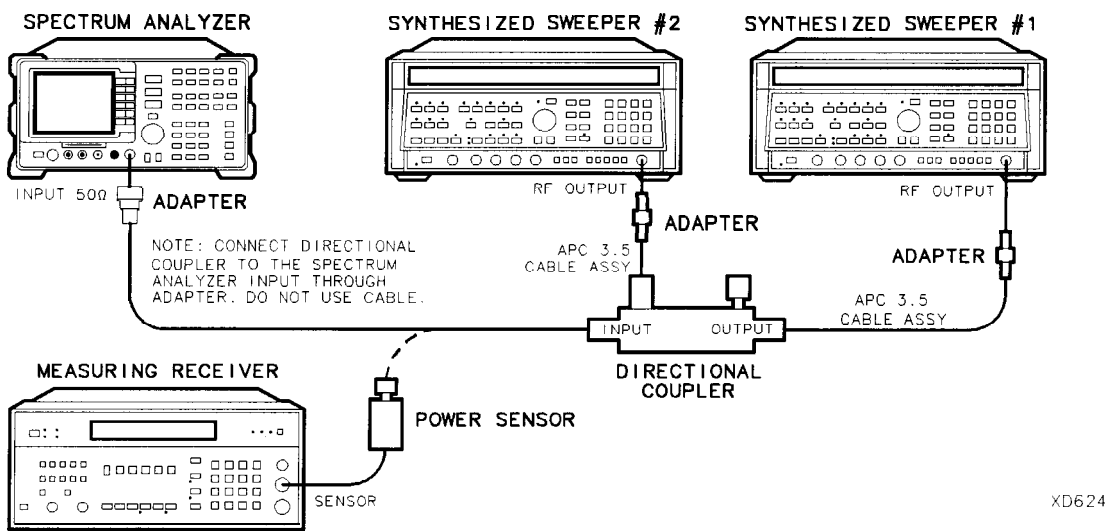

Figure 2-62. Gain Compression **Test** Setup
2. Connect the equipment as shown in Figure 2-62, with the output of the directional coupler connected to the power sensor.
15. Connect the equipment as shown in Figure 2-62.